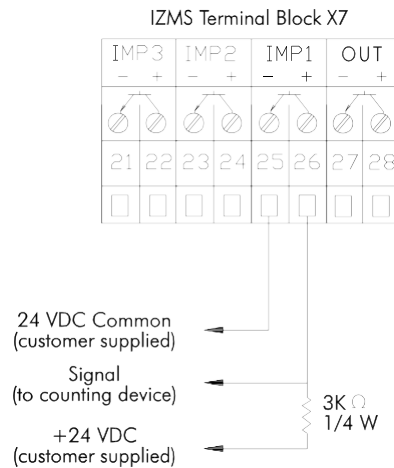

Figure 3-19. 24 VDC Pulse Signal Wiring Configuration
- P 24 VDC Pulse (Figure 3-19)